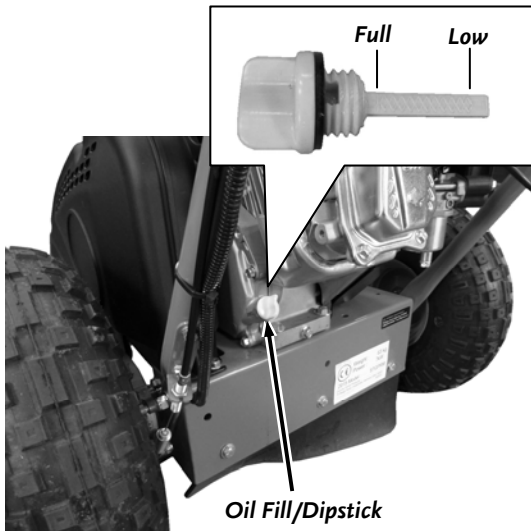
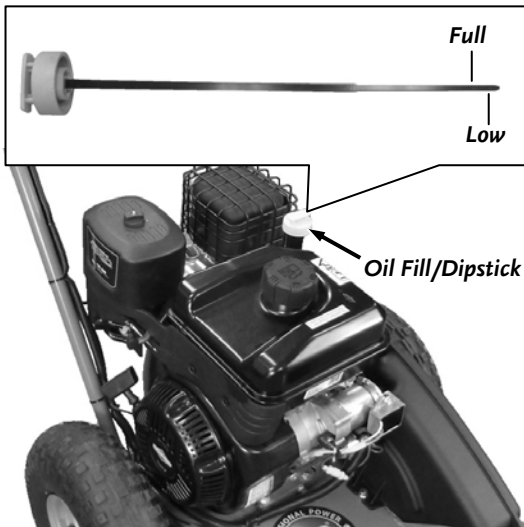

Figure 5
Figure 6
- Position the machine so the Frame and Engine are level. Remove the Oil Fill/Dipstick (**Figure 5 -Premier and Pro or Figure 6 -Pro-XL**) and clean the end of it with a rag.